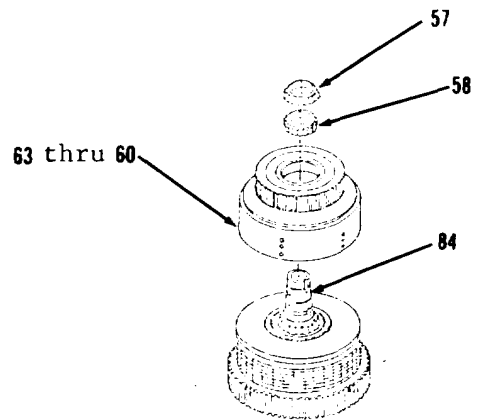
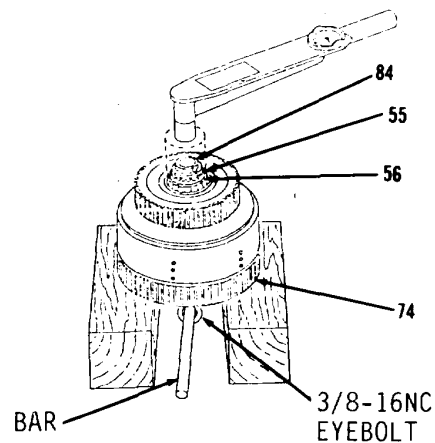

Figure 14-24.
Figure 14-25.
17. Install items 63 thru 60 as an assembly on shaft (84, Figure 14-24).
19. Install roller bearings (58 and 57) on shaft (84).
20. Install 3/8-16NC forged eyebolt on bottom of transfer gear (74, Figure 14-25).
22. Apply anti-seize compound to threads and face of nut lock (56) and lock nut (55).
23. Install nut lock (56) and lock nut (55) on shaft (84).
24. Using a spanner socket wrench, tighten lock nut (55) to 80 ft-lb torque.
25. Bend tab of nut lock (56) into groove of lock nut (55).